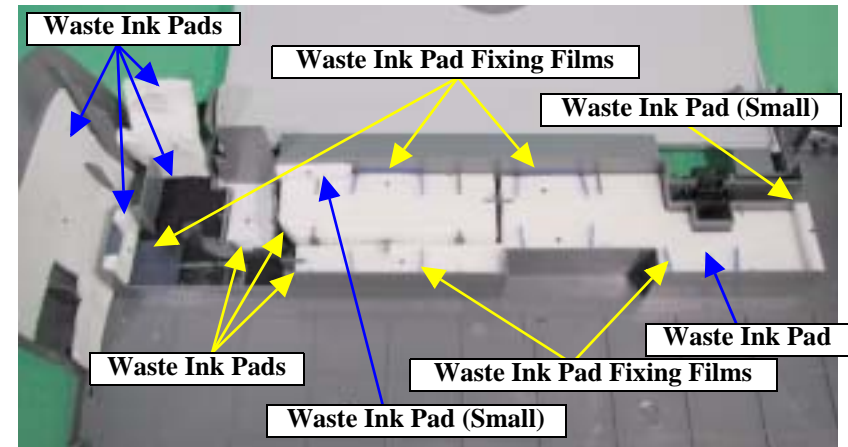

Figure 4-21. Removing the Waste Ink Pads
- The Waste Ink Pads (Small) and the Waste Ink Pads located on the front right side and right side as viewed from the printer front are fixed by double-faced tape. When reapplying them, change the tape if its adhesive force is weak. Refer to Figure 4-21, "Removing the Waste Ink Pads".
- When reapplying the Waste Ink Pad Fixing Films, change them if their adhesive force is weak. Refer to Figure 4-21, "Removing the Waste Ink Pads".